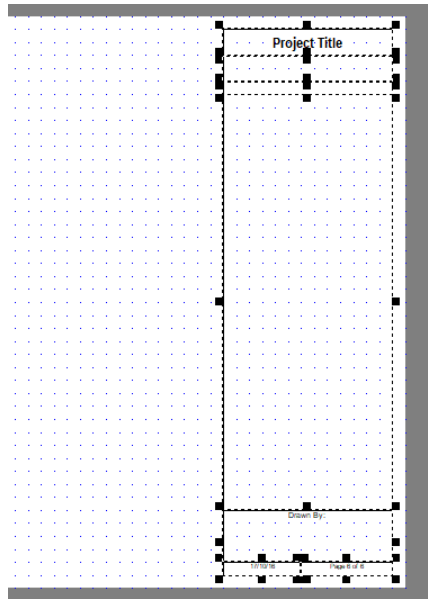

Figure 22-15: Selecting Multiple Sub-Views
5. Click and drag from the top right corner to select all the sub-views (rectangles in this case) of the title block as shown in Figure 22-15.